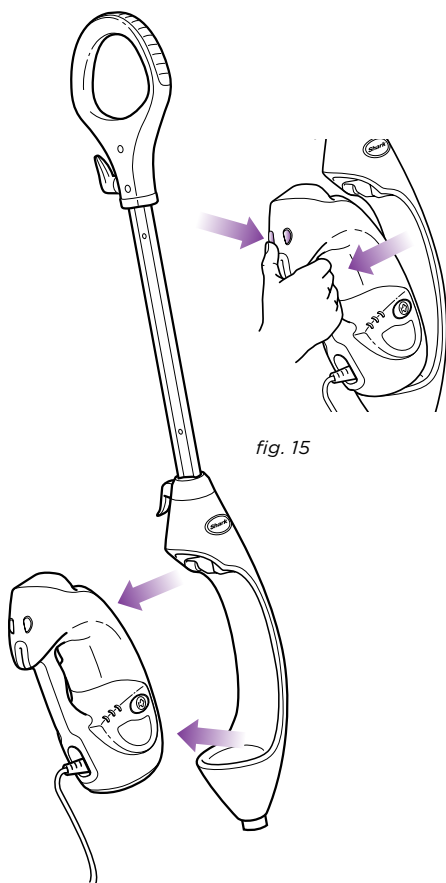

fig. 15
- 1 To remove the **Handheld Steamer**, press and hold down the steam unit lock buttons while pulling out the **Handheld Steamer**. (fig. 15)